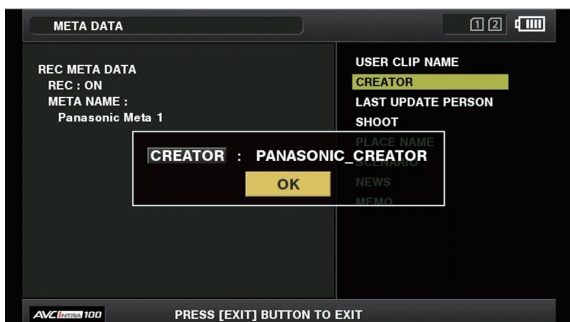

Fig. 1
- 2 Use the control stick to move the cursor over the item to be checked, and press the control stick. (Fig. 1)